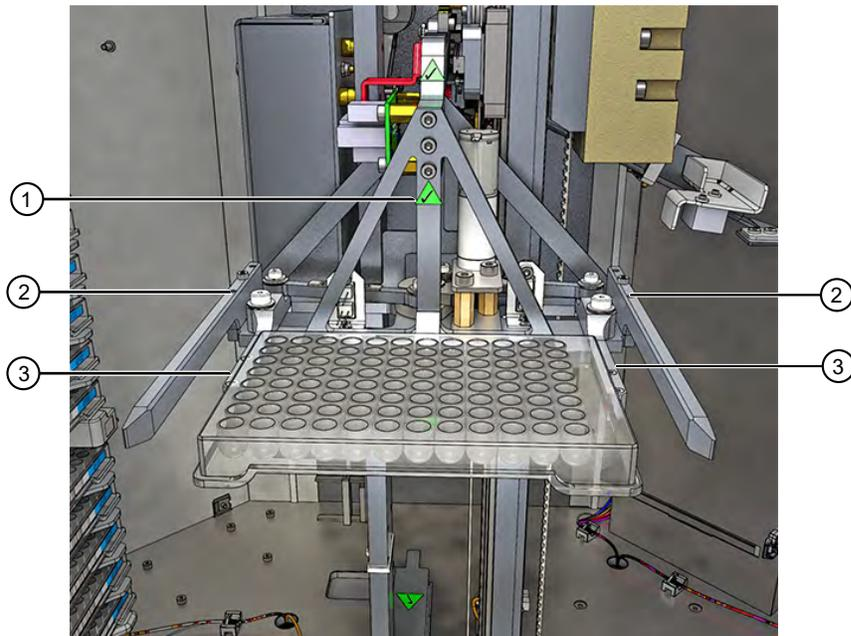

Figure 36 Narrow and wide arm grippers
4. Find the narrow pair of grippers on the transfer arm assembly. See Figure 36 on page 92 to help identify the grippers.